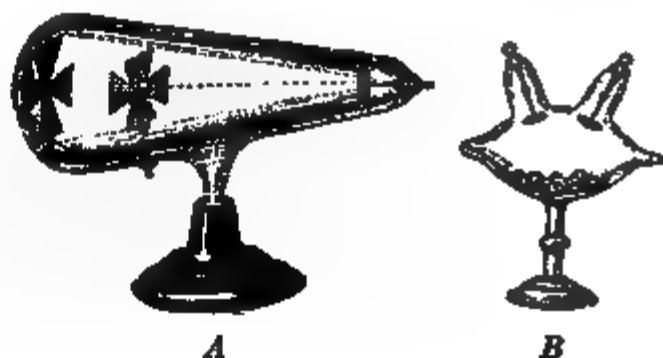

FIG. 521. — Shadow effect of cathode rays.
(2) As the cathode rays fall upon the glass tube a yellowish green fluorescence is produced. Pieces of zinc sulphide or of colored glass also fluoresce readily when exposed to the cathode rays in an apparatus like that shown in Fig. 521 B.
(3) If a piece of metal is interposed in the path of the rays as in Fig. 521 A, a shadow is produced. The glass fluoresces on all sides, but directly back of the metal it is dark; this shows that the cathode rays have been intercepted by the metal plate.